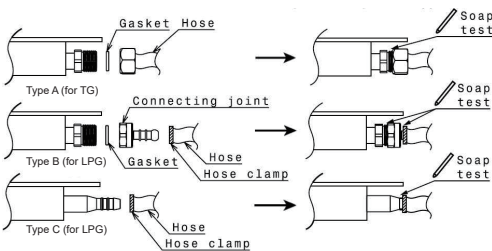

Fig. 8
- The supply hose must be visible for its entire length (max. one meter) and must be secured with a hose clamp X (Fig 8). The sealing washer must be fitted.
The supply hose must be visible for its entire length (max. one meter) and must be secured with a hose clamp X (Fig 8). The sealing washer must be fitted.
- Apply soapy solution to each joint. (Fig. 8)